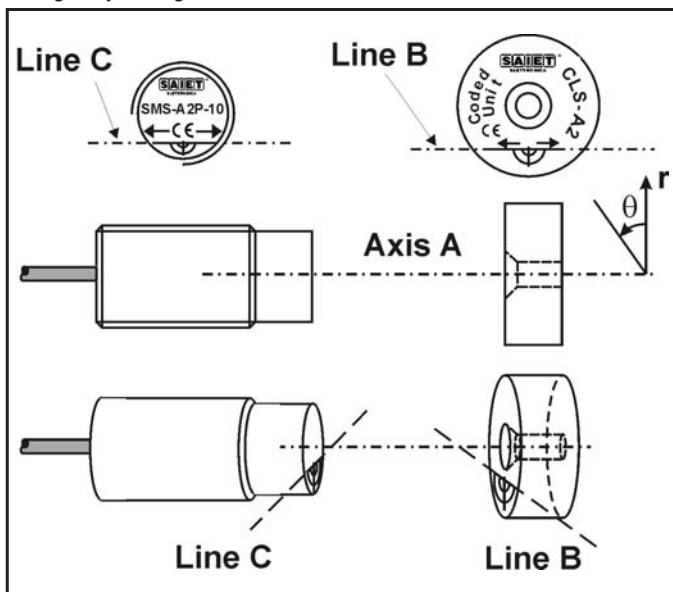

Fig. 5: Cylindrical sensors alignment and operation
- radially, centering sensor and magnetic unit so that the axes of the two cylindrical cases match (see **A Axis** in Figure 5),
corresponding sensor and magnetic unit arrow lines, so that the printed lines **B** and **C** are parallel (see Figure 5).